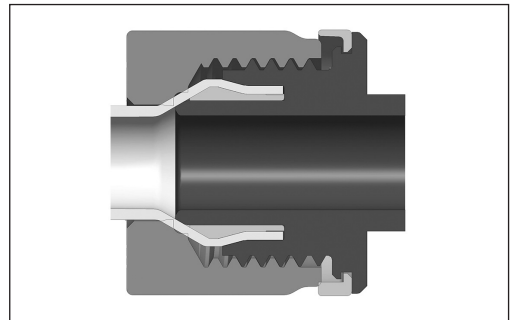

Figure 3.
2. A properly assembled fitting is shown in Figure 3.